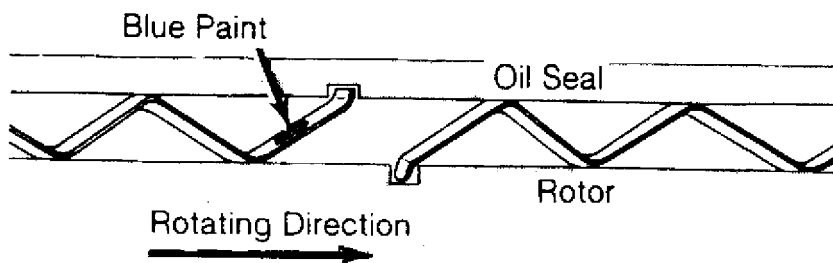

Fig. 19: Installing Oil Seal Spring on Rotor
2) Ensure oil seal springs have been painted in Cream or Blue color: Cream colored springs must be placed on front edge faces of rotors and blue springs on rear faces of rotors. When installing, painted side of spring must face oil seal (upward). See Fig. 19.